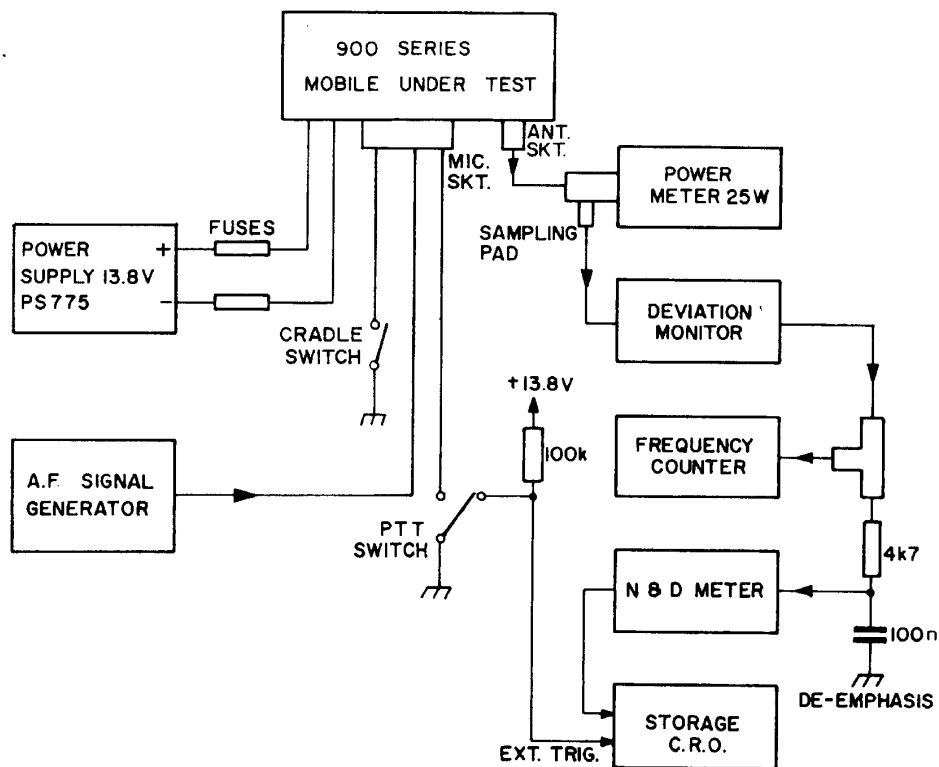

Figure 3.3. Equipment Set Up
- a) Use equipment set up as shown in Figure 3.3.